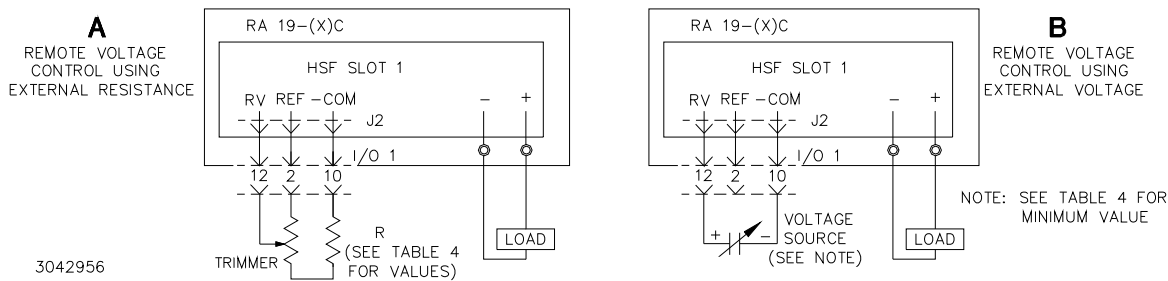

FIGURE 7. CONNECTIONS FOR REMOTE VOLTAGE CONTROL
For remote voltage control, set positions 1, 2 and 7 as shown in Figure 6B. This removes control from the front panel V_{adj} control and allows the output voltage to be adjusted by either an external trimmer pot (resistance) or by an external variable voltage source connected across the rack adapter I/O connector pin 12 (RV, Remote Voltage) and pin 10 (-COM, Common) as shown in Figure 7. At the rack adapter I/O connector use a shielded wire 6.6 feet (2M) maximum in length, for connection of REF (pin 2), RV (pin 12), and -COM (pin 10) to the trimmer control or external voltage source.
RESISTANCE: Connect the external trimmer as shown in Figure 7A. Suggested value for the trimmer control is 5K ohms. Referring to Figure 7 (A), Resistor R is used to obtain minimum output voltage required to ensure proper operation of the alarm relay and LED indicator; see Table 4 for values. NOTE: Output voltage may not adjust to 0V due to residual trimmer resistance.